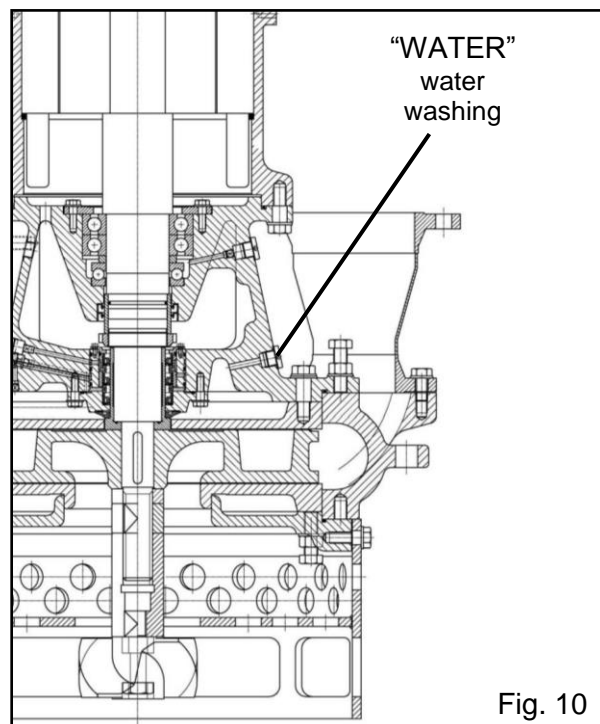

Fig. 10
- 4) For customers that work with particularly abrasive materials having a very fine particle size, we advise passing a jet of water under pressure, connecting it to the prepared threaded connector indicated with H2O (Fig. 10). The pressure must be greater than that exerted by the pump to have continuous cleaning of the area of the seals and so less wear.